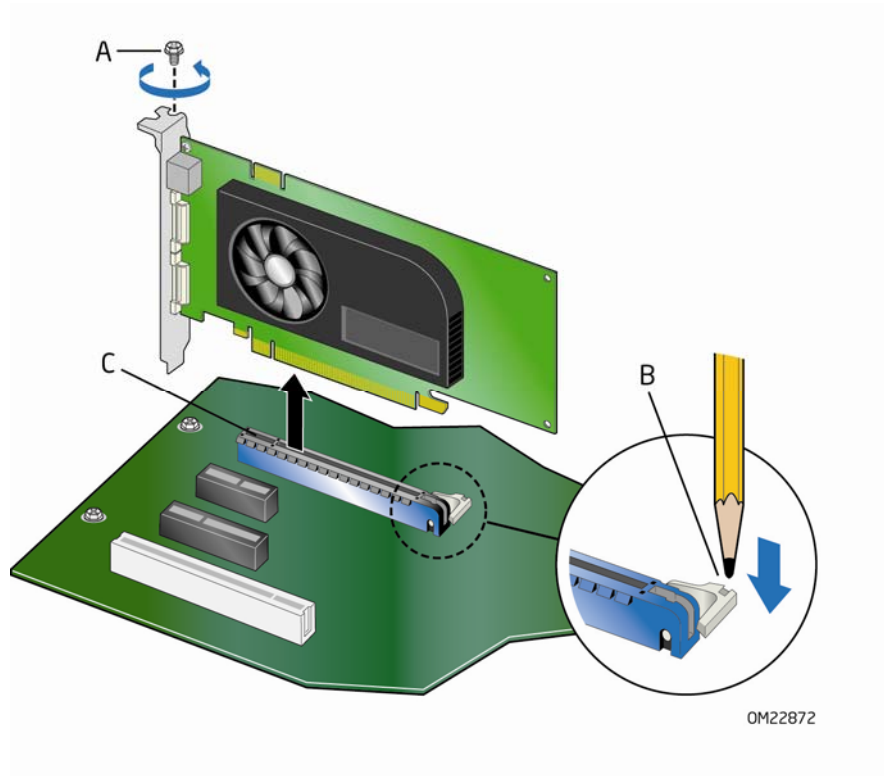

Figure 19. Removing a PCI Express x16 Graphics Card
3. Remove the screw (Figure 19, A) that secures the card's metal bracket to the chassis back panel.
4. Push the card ejector lever down using the tip of a pencil or similar tool (Figure 19, B) in the notch. This will release the card from the connector (C).